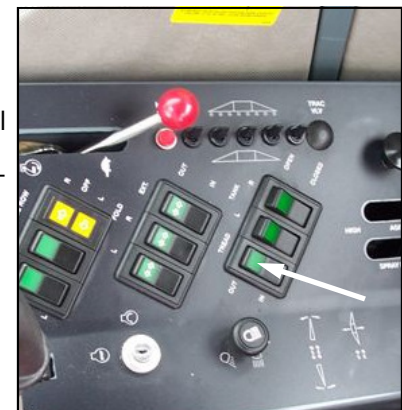

FIG 35-2
3. Locate the hydraulic tread adjust switch on the console panel (fig. 35-2). To adjust the tread in or out, depress and hold the corresponding side of the switch. All four wheels will move at the same time.